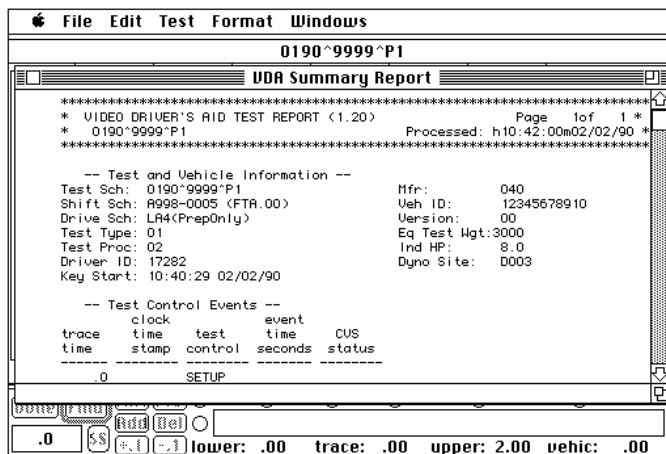

Figure 1
- 1.0 To edit the “Summary Report,” position the mouse pointer on the scroll arrow and hold down the mouse button until the “Out-of-Tolerance Events” are in view. See Figure 1. Out-of-tolerance events must be documented.